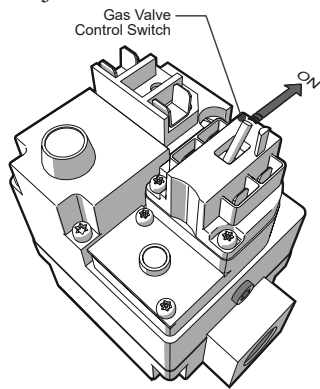

Figure 16. Gas Valve
- Toggle gas control switch to OFF position. See *Figure 16*.
- Wait five (5) minutes to clear out any gas, then smell for gas, including near the floor. **IF YOU SMELL GAS, STOP!** Follow instructions in Section 8.1.1.